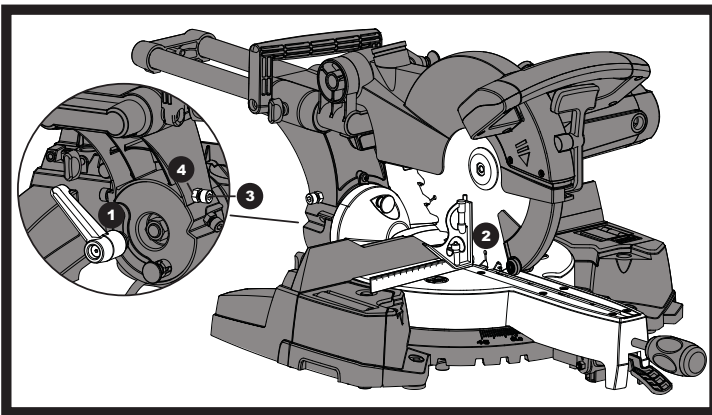

Fig 19
- 1) Loosen bevel lock handle (1) and rotate the cutting arm completely to the right until it stops against the vertical stop. Tighten the bevel lock handle.
- 2) Place a combination square (2) on the mitre table with the ruler against the table and the heel of the square against the saw blade.
- 3) If the blade is not 90° (0°) square with the mitre table (5), loosen the bevel lock handle (1), tilt the cutting head to the left, loosen the locknut (4) on the bevel angle adjustment bolt (3) and use an allen key to adjust the socket headed stop bolt (3) depth in or out to increase or decrease the bevel angle.
- 6) Tighten bevel lock handle (1) and locknut (4) when alignment is achieved. (See fig. 19)